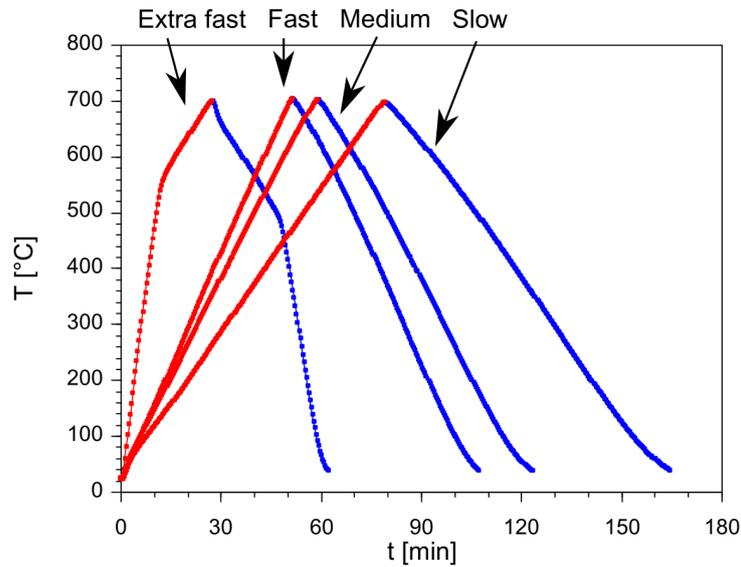

Figure 6: Specimen temperature as a function of time for four available high temperature rates.
- **High temperature mode.** The specimen is heated at controlled rate to the maximum temperature and then cooled down at the same controlled rate to the minimum temperature. There are four temperature rates available (Fig. 6). Default temperature rate (**Fast**) is suitable for most rocks and environmental materials (heating up to 700 °C and cooling down to 40 °C takes ca. 1 and $\frac{3}{4}$ hr., temperature change between individual measurements is about 3 °C).